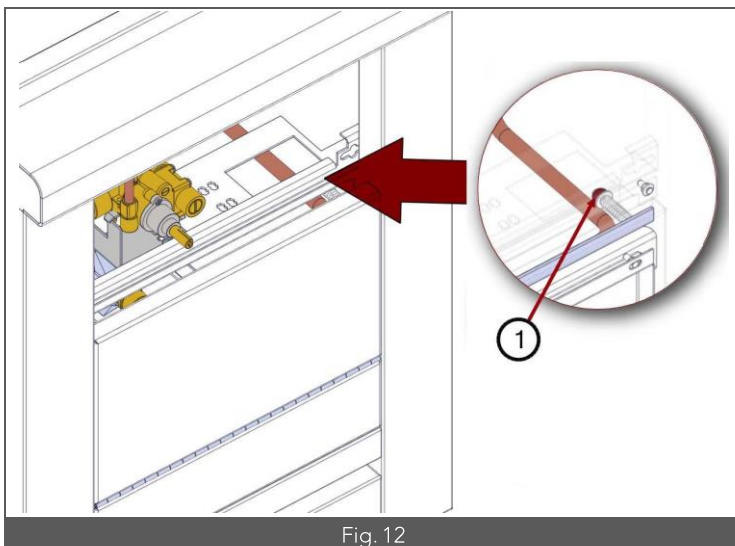

Fig. 12
- 3- Unscrew the locknut, then the nut (Fig. 12 – Item 1), and remove the washer. Pull out the plate.